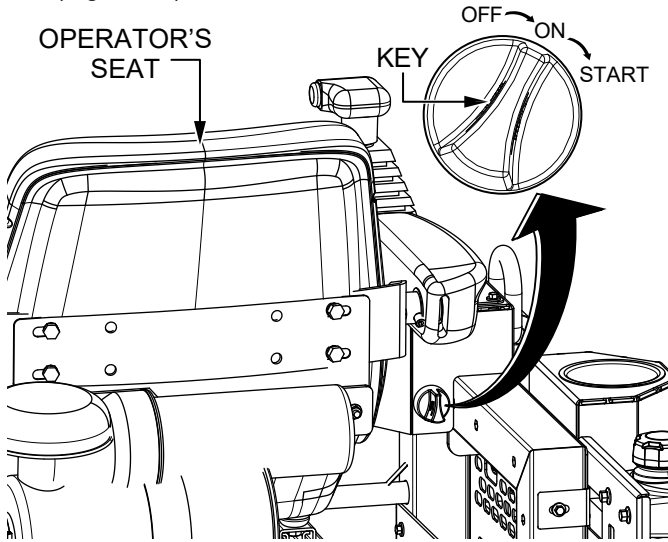
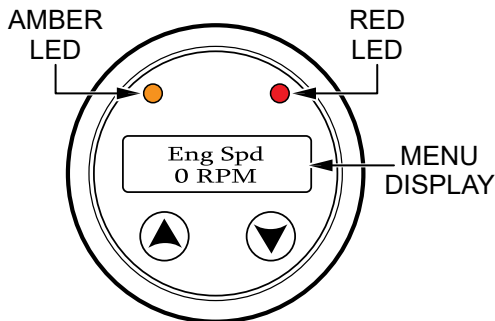

Figure 25. Ignition Key Switch
Figure 26. Diagnostic Display
2. Insert the **ignition key** into the **ignition switch** (Figure 25).
3. Turn the ignition key clockwise to the **ON** position (Figure 25). The **AMBER and RED LEDs** on the **diagnostic display** (Figure 26) will flash and the **menu display** will cycle through the preset parameters until the engine is started.
6. The diagnostic display's amber and red LEDs (Figure 26) will turn **OFF** if no engine or machine faults are present.